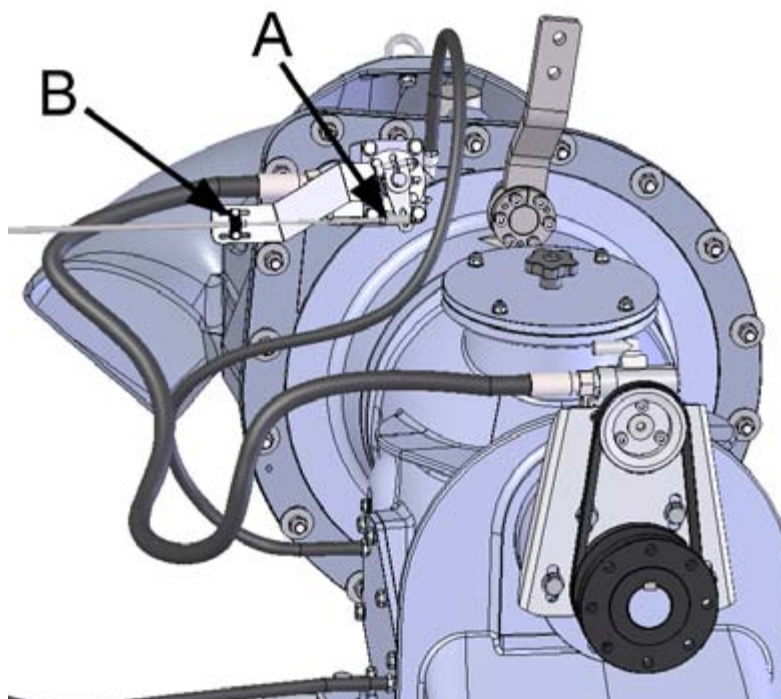

Figure 36. Removing the cable
- 1.1. Remove the cable angle joint (figure 36, point A) from the control lever.
- 1.2. Remove the saddle fastener from the cable bracket (figure 36, point B).